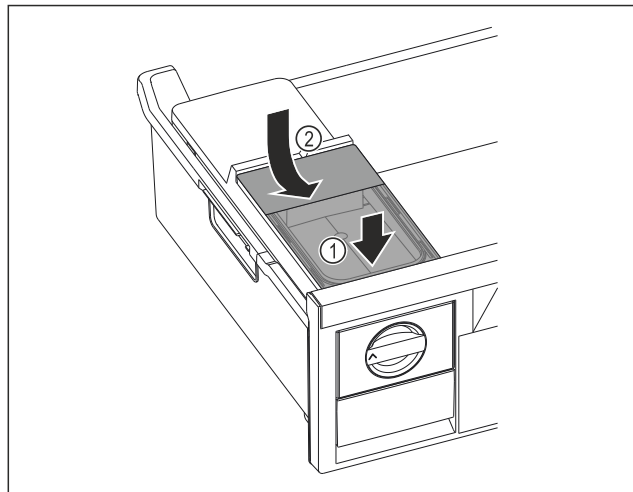

Fig. 127
- Position the water tank at the front. Fig. 127 (1)
- Lower the water tank at the rear. Fig. 127 (2)